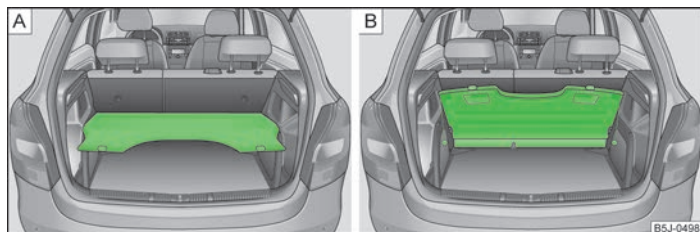

Fig. 48 The luggage compartment cover: Stowed in the lower position/behind the rear seats
- In the lower position on the support elements » Fig. 48 - A » !;
- behind the rear seats » Fig. 48 - B.
In this position » Fig. 48 - A the luggage compartment cover is designed to store small objects up to a weight of 2.5 kg.